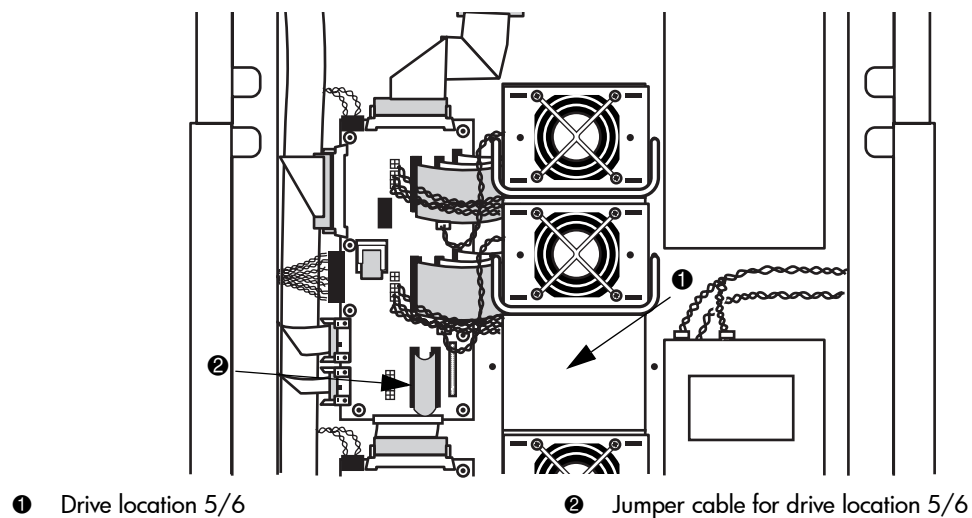

Figure 13: Jumper connections for drive location 5/6
8. For a 10-drive UDO-only jukebox, or a 4-drive jukebox, connect the SCSI jumpers to the interposer board at drive location 5/6 (see Figure 13).